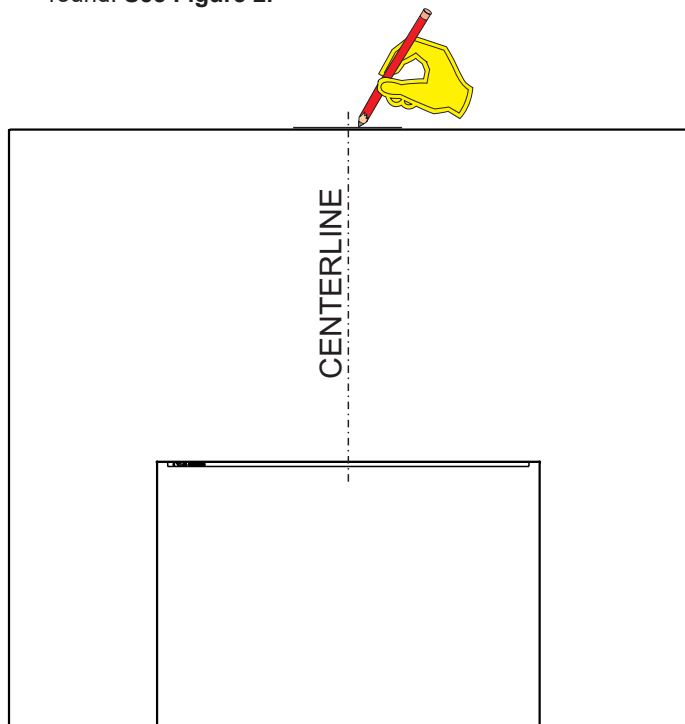

Figure 2
2. Lightly mark the wall on the at the center. Remove the surround. **See Figure 2.**